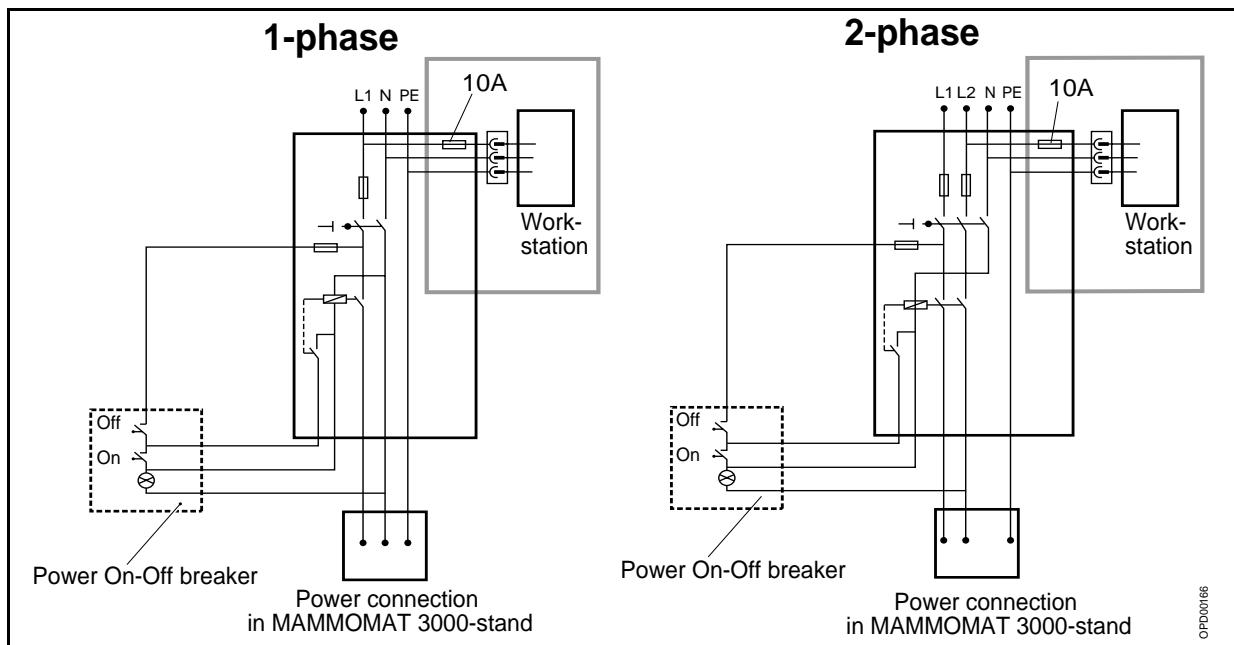
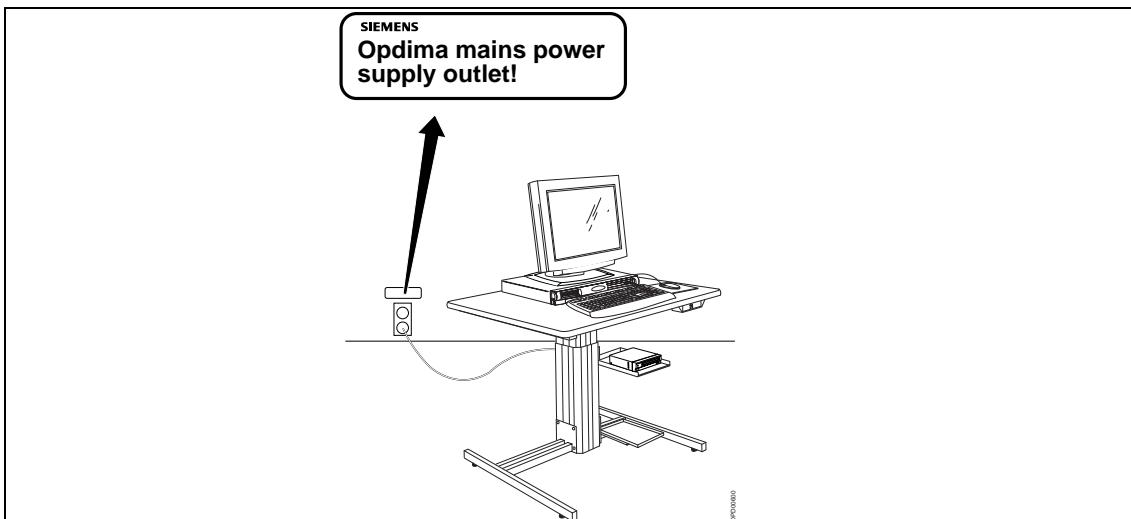

Fig. 14 Power distribution
Fig. 15 Mains marking label
12. Mark the wall socket connected to the same branch circuit as the MAMMOMAT (Fig. 14) with label according to Fig. 15.
The power distribution to the system is shown in Fig. 14.